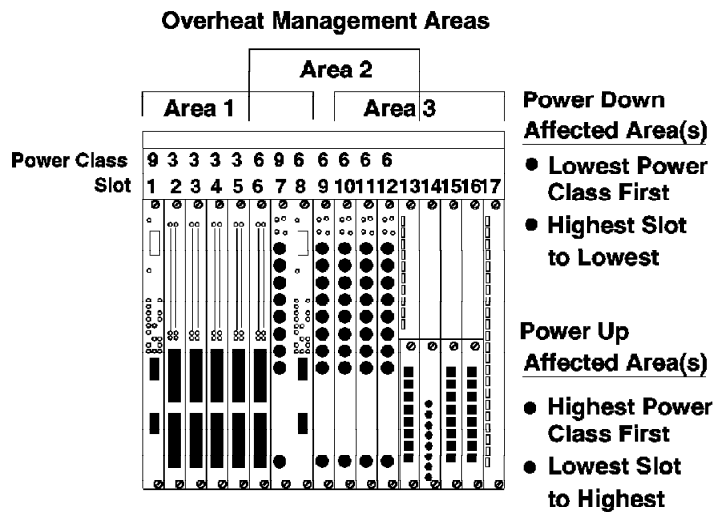

Figure 91. 8260 Cooling Zones and Power Classes
- If the Over_Heat Power_Down is set to Enable, (default is Disable) then the power subsystem is used to power down 8260 modules according to their power class and slot position within the affected cooling zone as shown in Figure 91.